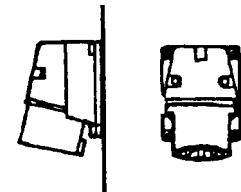

Figure 44 CEE male connector.
- 133* 32 A, 380-415 V, 3p + PE (see Figure 44).
- 136* 32 A, 380-415 V, 3p + N + PE (see Figure 44).